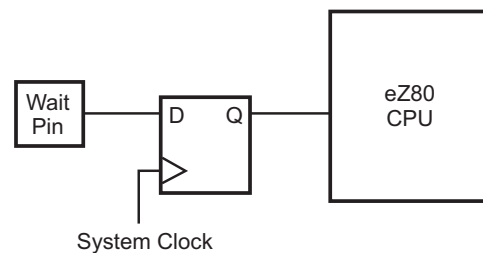

Figure 7. Wait Input Sampling Block Diagram
**Caution:** If the  $\overline{WAIT}$  pin is to be driven by an external device, the corresponding Chip Select for the device must be programmed to provide at least one WAIT state. Due to input sampling of the  $\overline{WAIT}$  input pin (shown in Figure 7), one programmable WAIT state is required to allow the external peripheral sufficient time to assert the  $\overline{WAIT}$  pin. It is recommended that the corresponding Chip Select for the external device be programmed to provide the maximum number of WAIT states (seven).